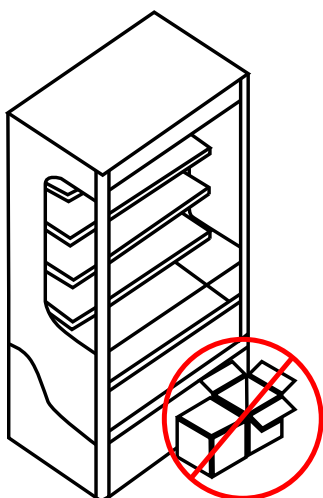

FIGURE 3
- Do not block the lower ventilation grille with the packages while loading (see fig 3).